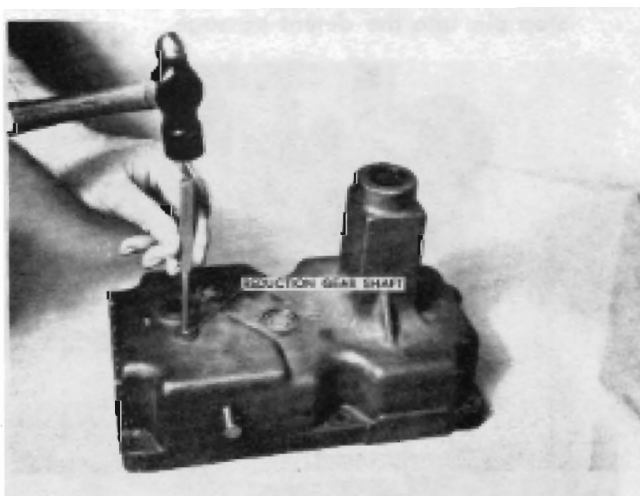

FIGURE 7
25. Remove the reduction gear shaft (Figure 7) by driving it out toward the inside of the case, and remove the reduction gear.